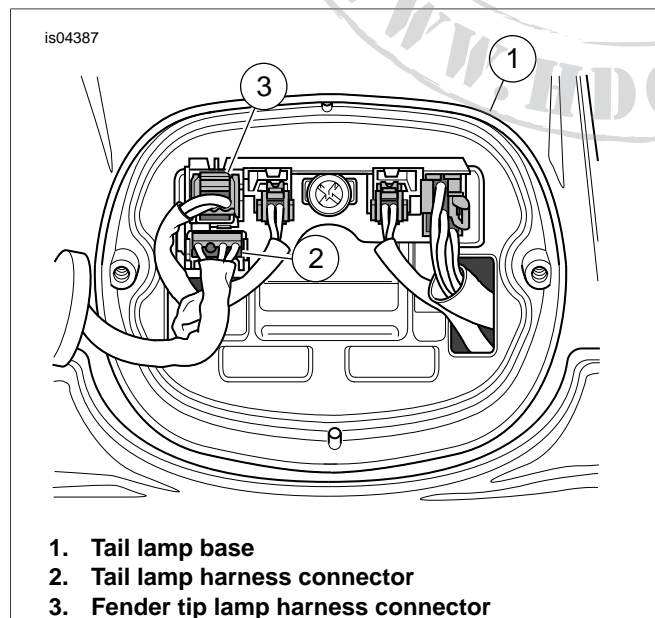
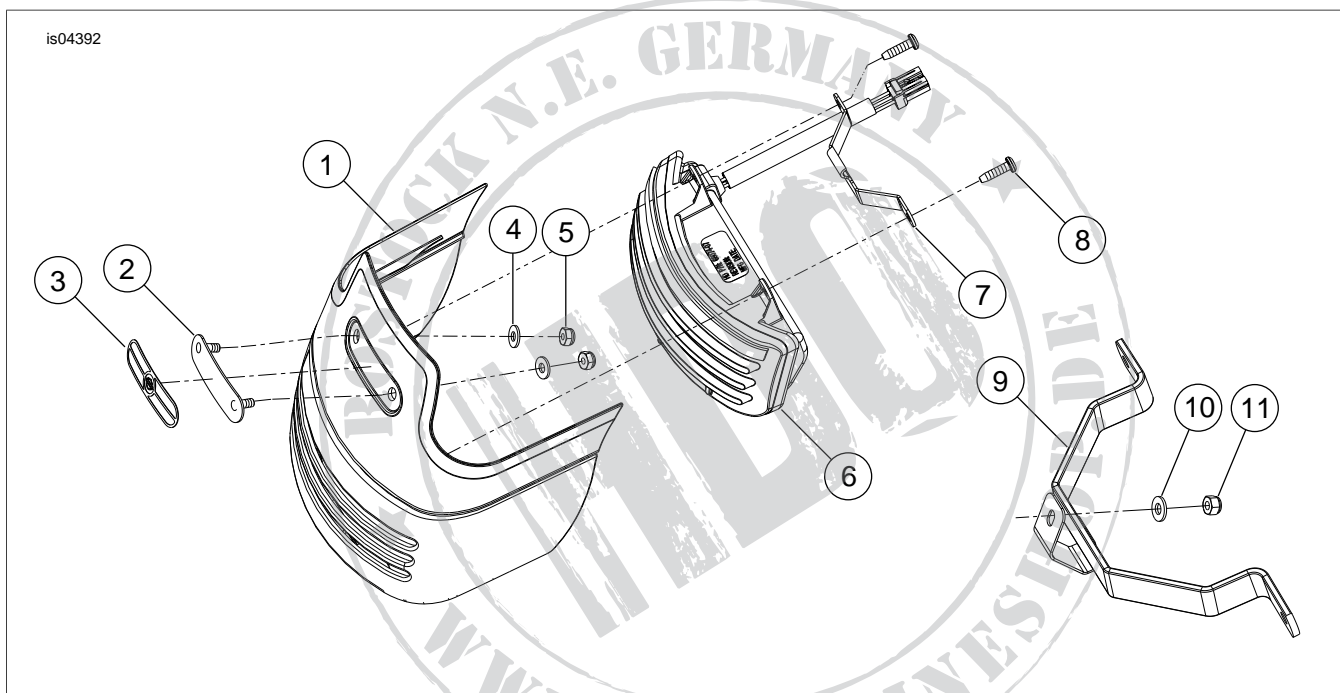

Figure 1. Tail Lamp Base
Figure 4. Service Parts: Tri-Bar Rear Fender Fascia Kit
See Figure 4 and Table 1.
1. See Figure 1. Remove two screws to disconnect tail lamp lens from chrome base (1). Save screws for reuse.
2. Disconnect fender tail lamp harness connector (2) from tail lamp socket.
3. Disconnect fender tip harness connector (3) from tail lamp socket.
1. See Figure 4 and Table 1. Snap tabs of tri-bar fender lamp (6) into slots of tri-bar housing fascia (1).
2. Position mounting bracket (7) as shown and attach to housing fascia using two self-tapping screws (8). Tighten screws to 18-22 **in-lbs** (2.1-2.5 Nm).
3. Position fascia (1) on fender to slide it up so that tab of mounting bracket (7) catches inside of fender.
4. Attach fascia to fender using stud plate (2), washers (4) and nuts (5). Tighten nuts to 10-40 **in-lbs** (1.1-4.5 Nm).
5. Place center tab of fender-to-saddlebag support bracket (9) over fender weld stud and loosely attach washer (10) and locknut (11).
6. Attach fender bracket to saddlebag support using previously removed T-40 TORX screws and nuts. Alternately tighten TORX screws to 15-20 ft-lbs (20-27 Nm). Tighten center weld stud nut (11) to 45-85 **in-lbs** (5.1-9.6 Nm).
8. See Figure 1. Slip harness connector through opening in lower left of tail lamp housing and connect to socket (3).